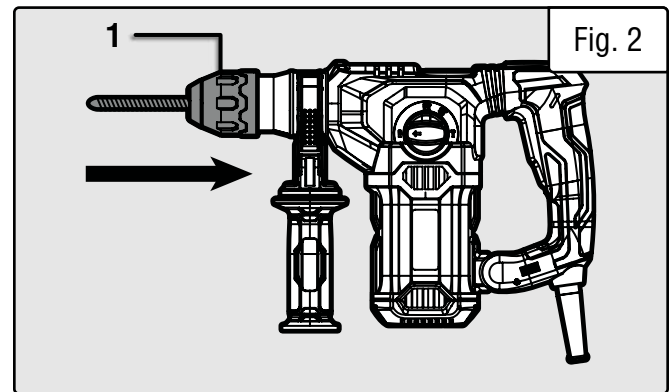

Fig. 2
1. Clean and lightly grease the shank end of the bit. Push back on the locking sleeve (Fig. 2 - 1) and insert the bit while simultaneously twisting it until it locks into place. Make sure that the bit is secure before beginning operation.